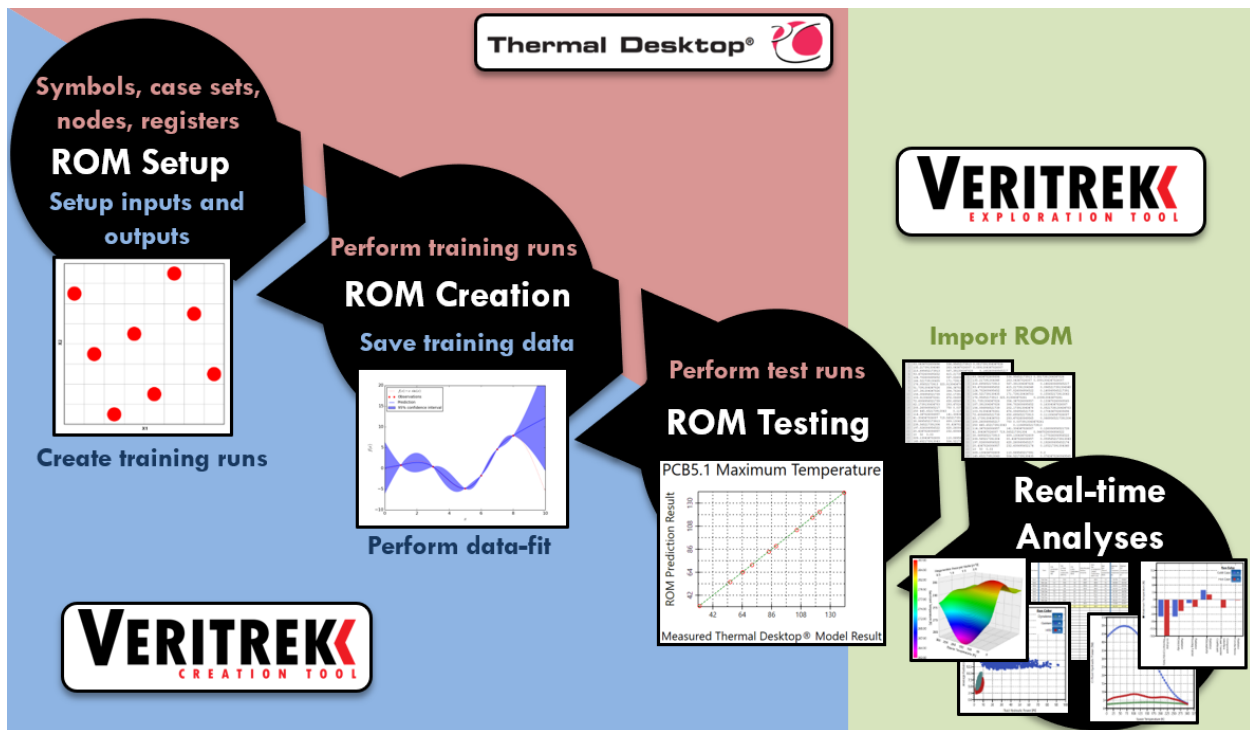

Figure 1-1: Veritrek process flowchart
Developed to enhance the capabilities of Cullimore and Ring Technologies' (CRTech) Thermal Desktop® (TD), *Veritrek* produces thousands of simulation results in seconds by leveraging the power of reduced-order models (ROMs). ROMs act as statistical emulators built from high-fidelity simulations and allow you to quickly investigate variations in your Thermal Desktop® model. *Veritrek* benefits include reduced modeling costs and accelerated analysis schedules using ROMs, more optimized designs through unique statistically based analysis features, and a more collaborative work environment through *Veritrek's* easy-to-use interface and flexible licensing approach. Figure 1-1 shows a flowchart for the overall *Veritrek* process, including both the *Veritrek Creation Tool* and *Veritrek Exploration Tool*, along with the interaction between *Veritrek* and Thermal Desktop®.